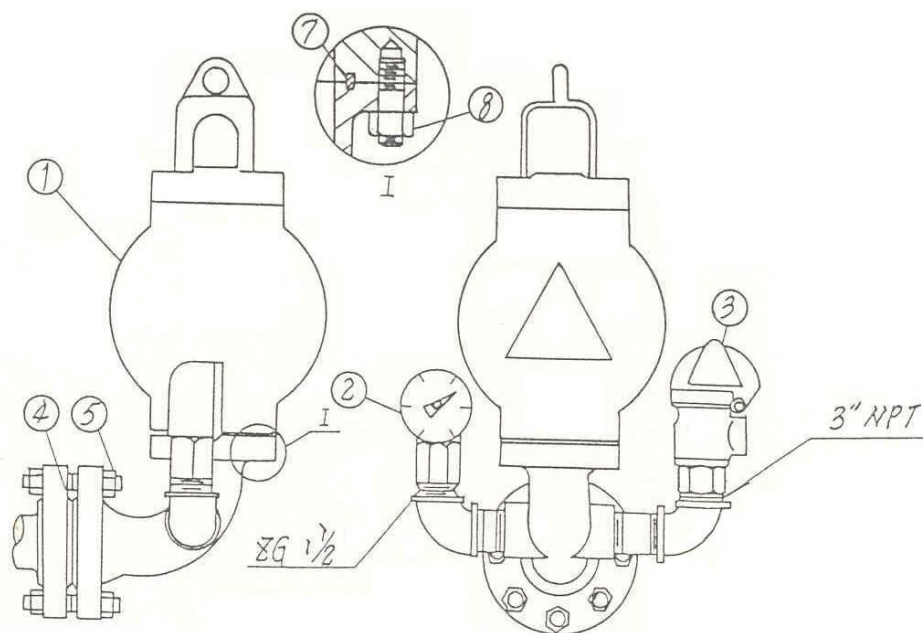

Fig.9
An accessory manifold Fig.9 is available for installation on the discharge manifold opposite the discharge end, The manifold will accommodate a Rongli pulsation dampener (1)(KB-45 for F-500/800G,KB-75 for F-1000 and others) and provides a 3"NPT and a ZG 1-1/2" side outlet connections for such items as a shear relief valve(3) and a pressure gauge (2) when manifold is used, install and maintain as follows: